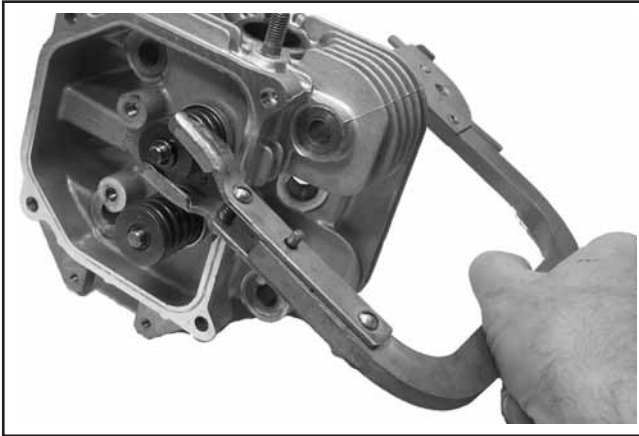

Figure 8-32. Removing Valves with Valve Spring Compressor.
2. Compress the valve springs using a valve spring compressor. See Figure 8-32.